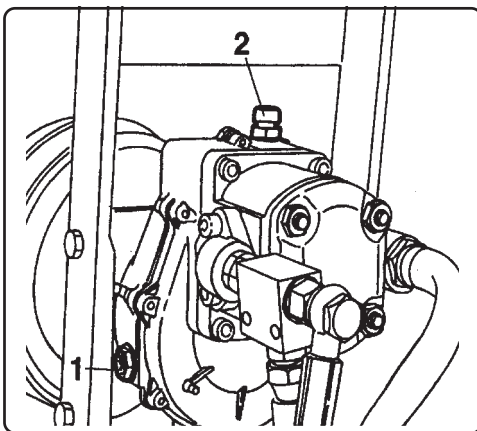

Fig. 10
- 7) For Model PS900 with cardan shaft connection and overgear (Fig. 10) **periodically check** the oil level. To this regard, proceed as follows:
Check the oil by means of the transparent oil level cap located on the side of the overgear (1 Fig. 10). Any topping up should be done through the cap (2 Fig. 10) located at the top. It is recommended to replace the oil of the overgear every 800 working hours; this should in any case be done by specialised and authorised personnel.